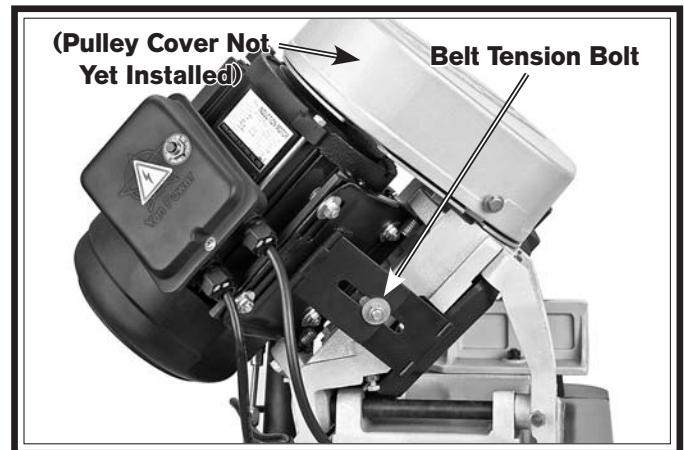

Figure 14. Belt tension bolt location.
10. Loosen the belt tension bolt shown in **Figure 14**.